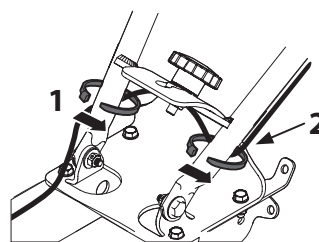

Figure 9
2. Route the emergency stop control wire up and around the back of the right side handle bar and secure it just under the handlebar pivot, along with the clutch cables using a cable tie. See 1 in Figure 9.
3. Secure the wire with a cable tie on the left side handlebar, just under the handlebar pivot, and route the wire up the left handlebar. See 2 in Figure 9.